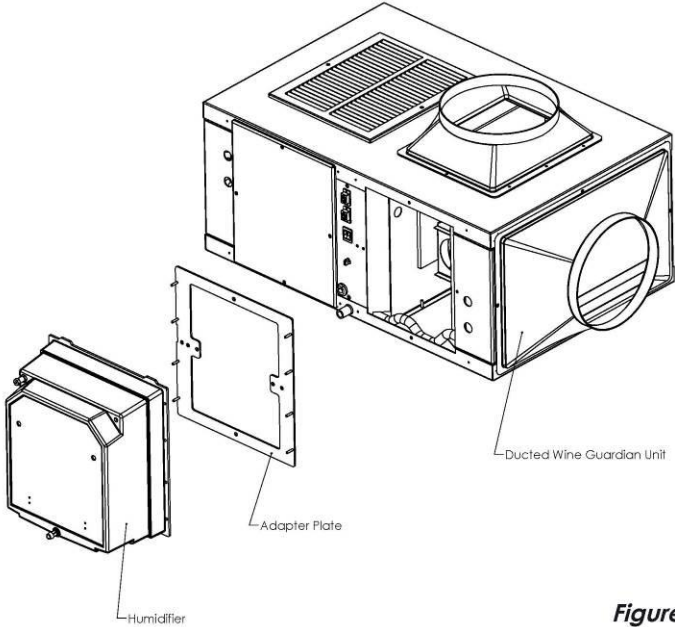

Figure 5.0
- 2) Select the proper adapter plate for the cooling unit. Models D200 and SS200 for 60Hz and WG175 for 50Hz units require a larger adapter plate and install on the side opening using the screws from the panel removed above. The adapter plate allows the humidifier to be mounted in either a forward position or back toward the center by simply rotating the adapter plate 180 degrees. **(See Figure 5.0)**